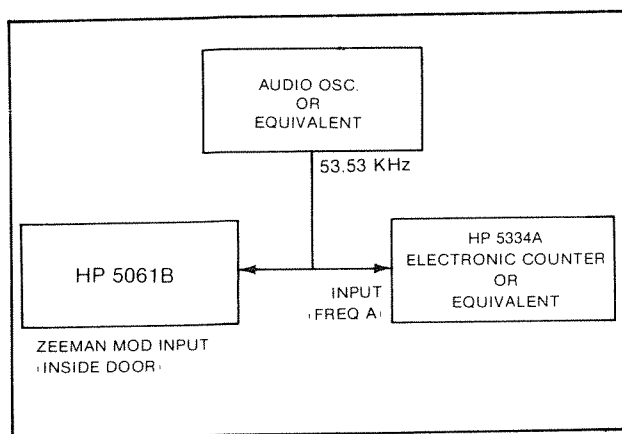

Figure 3-5. Test Setup for C-Field Adjustment
- d. Connect the HP 5061B and other units as shown in Figure 3-5.